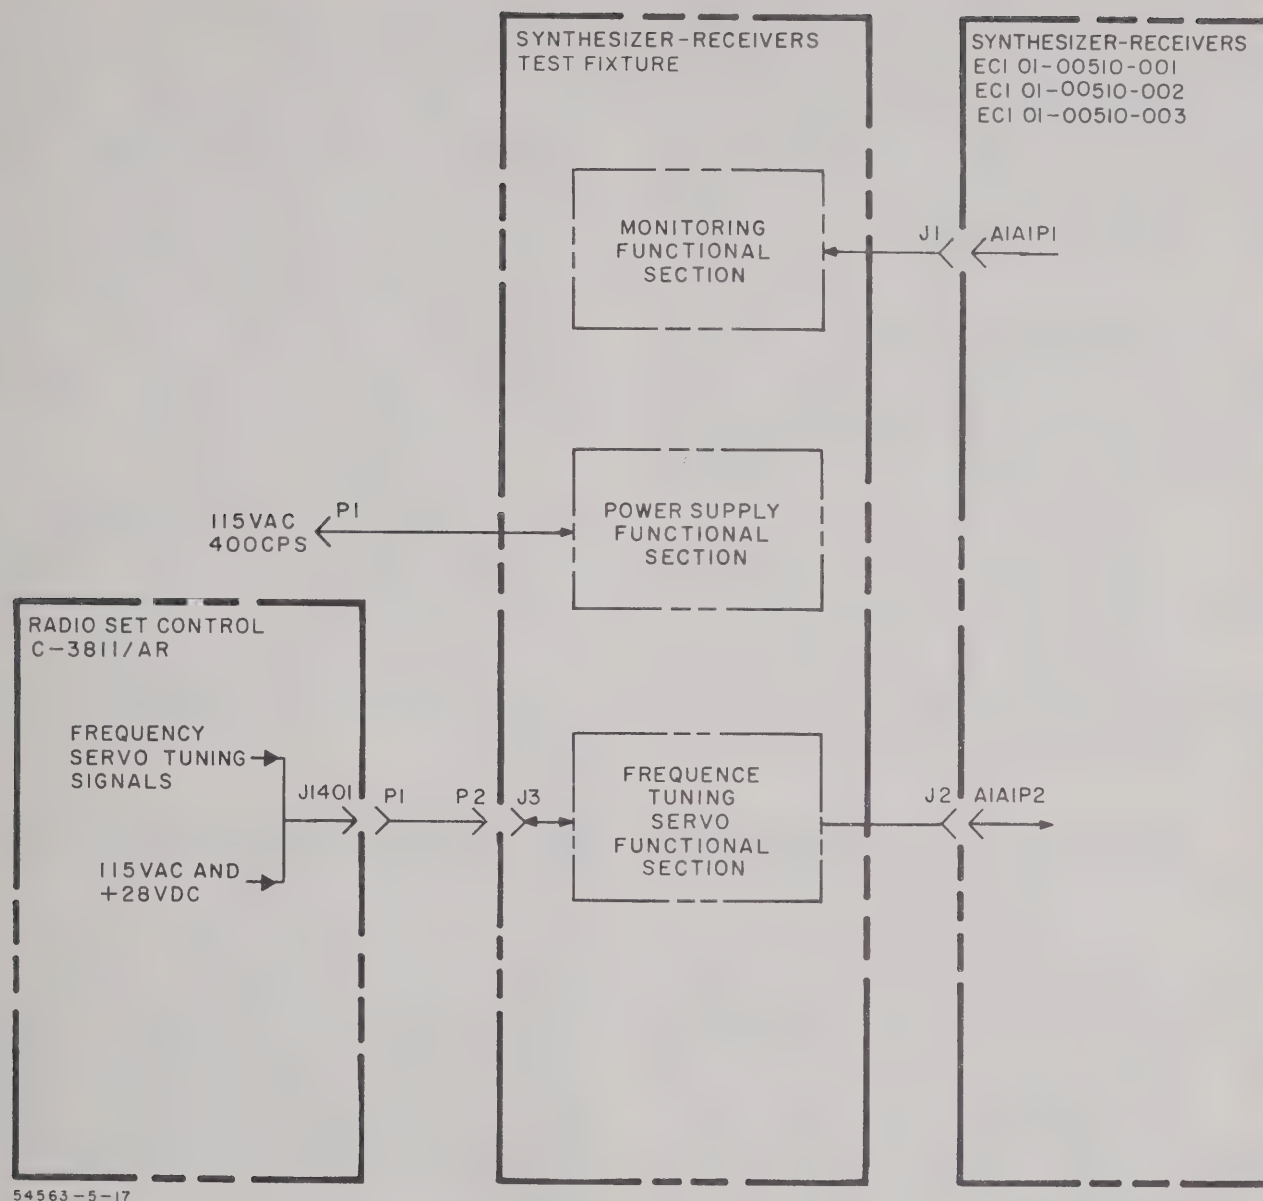

Figure 4-2. Test Set Coupler, MX-8153/TYA-11, Overall Block Diagram
c. TEST SET COUPLER, MX-8153/TYA-11, OVERALL FUNCTIONAL DESCRIPTION. The overall troubleshooting data for Test Set Coupler, MX-8153/TYA-11, consists of a functional description. The functional description is based on major signal flow through the Test Set Coupler during the testing of Synthesizer-Receiver, ECI 01-00510-001, 01-00510-002, and 01-00510-003. Test Set Coupler, MX-8153/TYA-11 (see Figure 4-2) consists of the power supply functional section, monitoring functional section, and frequency tuning servo functional section. The power supply functional section receives 115 vac from a two-phase, 400 cps power source and supplies ac and dc power to Synthesizer-Receiver under test and to Radio Set Control, C-3811/AR. The monitoring functional section applies an external antenna input signal to Synthesizer-Receiver and provides loads and test points for the Synthesizer-Receiver output signals. The frequency tuning servo functional section provides interconnections for the frequency tuning servo signals which are generated in Radio Set Control, C-3811/AR, and applied to Synthesizer-Receiver.
(1) Power Supply Functional Section. The troubleshooting data for the power supply functional section consists of a functional description, followed by test data. The functional description is based on major signal flow through the functional section and describes the operation of each circuit group with respect to the overall function of the power supply functional section. The test data provides the information necessary to isolate the faulty circuit group or detail part of the power supply functional section.